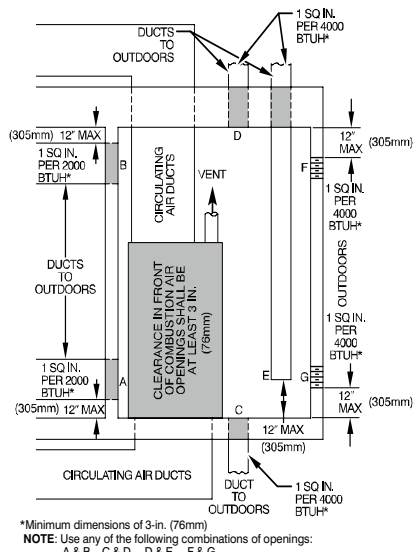

Fig. 6 – Air for Combustion, Ventilation, and Dilution for Outdoors
2. Fig. 6 illustrates how to provide TWO OUTDOOR OPENINGS, one inlet and one outlet combustion and ventilation air opening, to the outdoors.
- b. Size openings and ducts per Fig. 6 and Table 3.
- c. TWO HORIZONTAL DUCTS require 1 sq. in. (645 sq. mm) of free area per 2,000 Btuh (1,100 mm²/kW) of combined input for all gas appliances in the space per Fig. 6 and Table 3.
- d. TWO OPENINGS OR VERTICAL DUCTS require 1 sq. in. (645 sq. mm) of free area per 4,000 Btuh (550 mm²/kW) for combined input of all gas appliances in the space per Fig. 6 and Table 3.
- a. 1 sq. in. (645 sq. mm) of free area per 3,000 Btuh (734 mm²/kW) for combined input of all gas appliances in the space per Fig. 6 and Table 3.